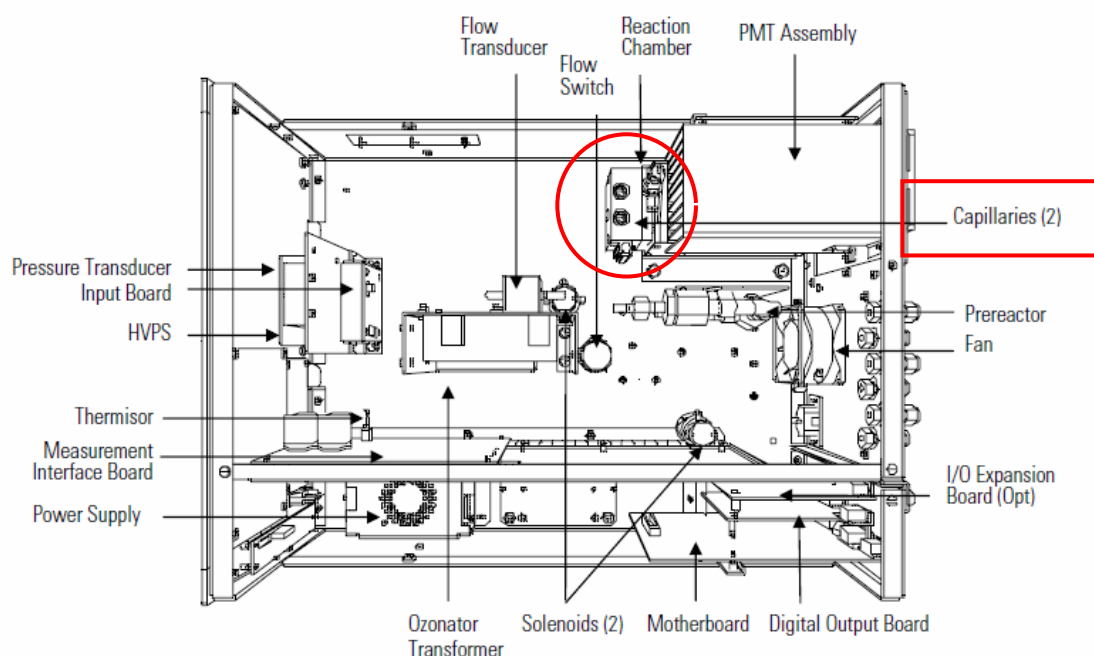
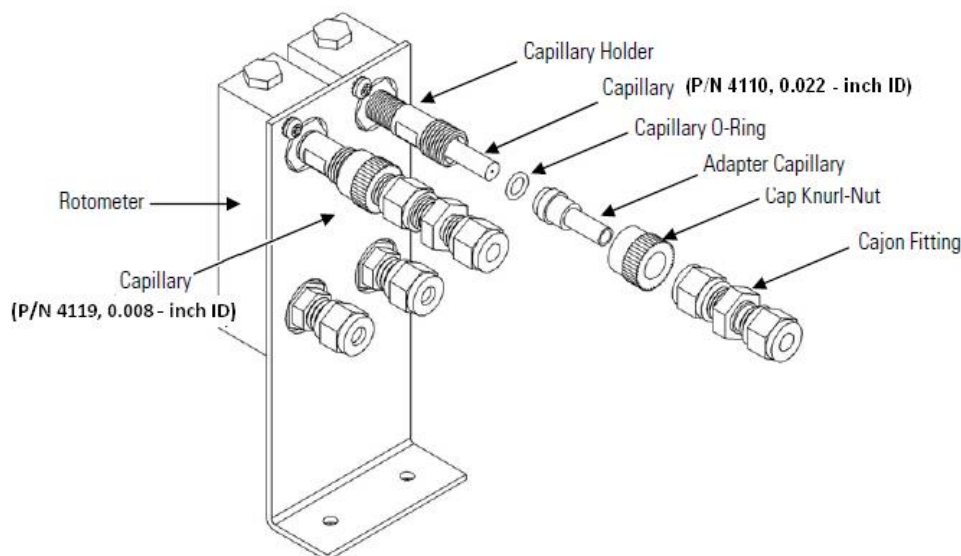

Figure 3 Analyzer Component Layout
Figure 4 Bypass Auxiliary Capillaries
5. Locate the capillary holders (see **Figure 3, Figure 4** pg.26).